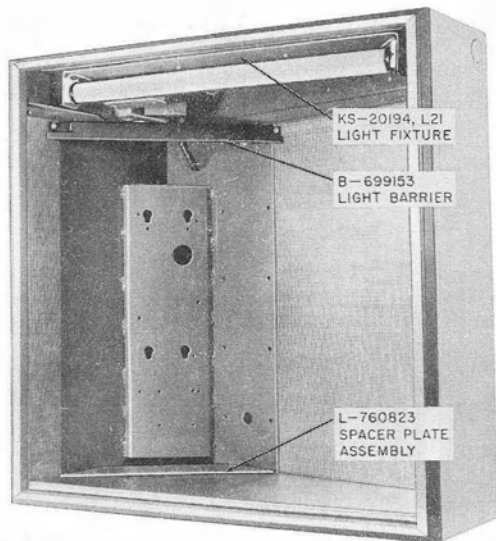

Fig. 5—Typical Housing For List 1, 2, 3, and 4 Shelf
- (i) Lists 1, 2, 3, and 4 shelves contain a light barrier and spacer plate (Fig. 5).
The shelf is packaged completely assembled [except the spacer plate assembly (Fig. 5) is packaged separately] and must be partially disassembled before it can be installed.
- 3.07** If applicable, install the perforated panels, L-760823 spacer plate assembly, and B-699153 light barrier (Fig. 5).